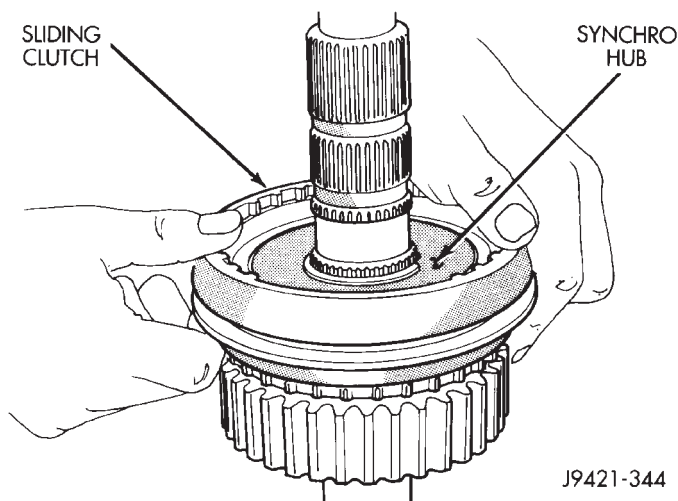

Fig. 76 Sliding Clutch Installation
(6) Install sliding clutch (sleeve) on synchro hub (Fig. 76).